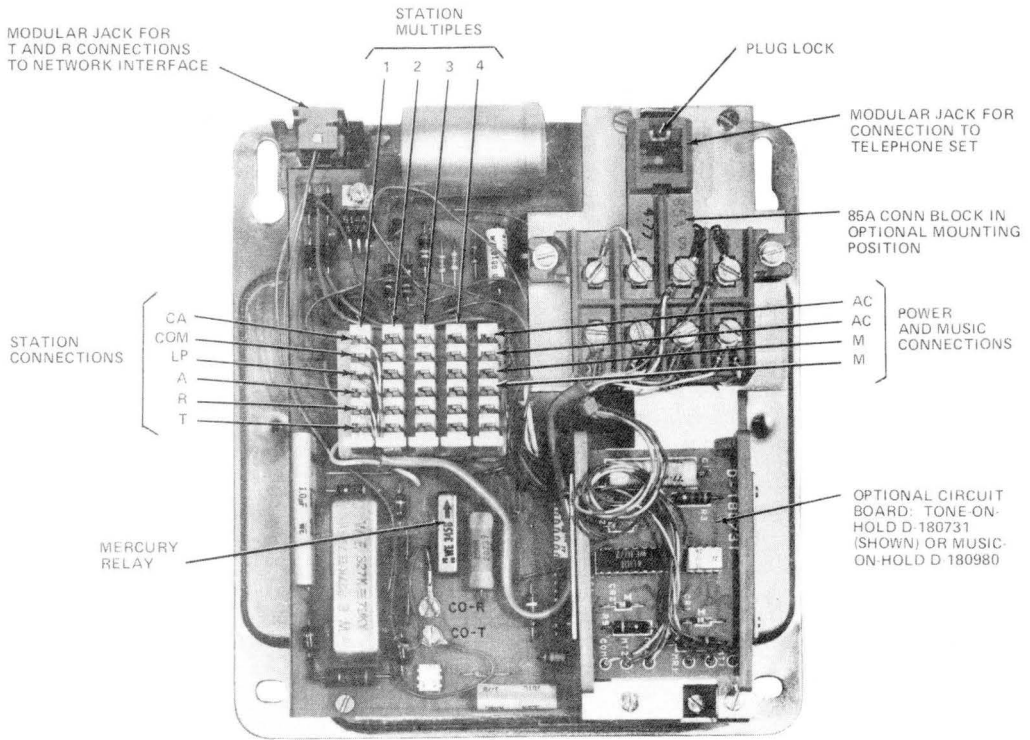

Fig. 38—30AM Apparatus Unit
3.56 The method of installation and connection of this feature depends on the type of telephone with which the line is used. In all cases, a 30AM apparatus unit (Fig. 38) must be installed for each personal line; a single 30AM can serve a maximum of 16 stations on the same line if the restrictions of Fig. 12 are observed.
and close to a suitable ac outlet. Remove the cover and mount the base pan assembly on a vertical surface so the mercury relay on the printed wiring board (Fig. 38) is in a vertical position as indicated by the arrow on the can.
the set, the 86A block can be disassembled as described in paragraph 3.58(d)(1) and its 85A block mounted directly on the 30AM unit (Fig. 38). Be sure that the white plastic plug lock is not removed from the modular jack of the 85A.